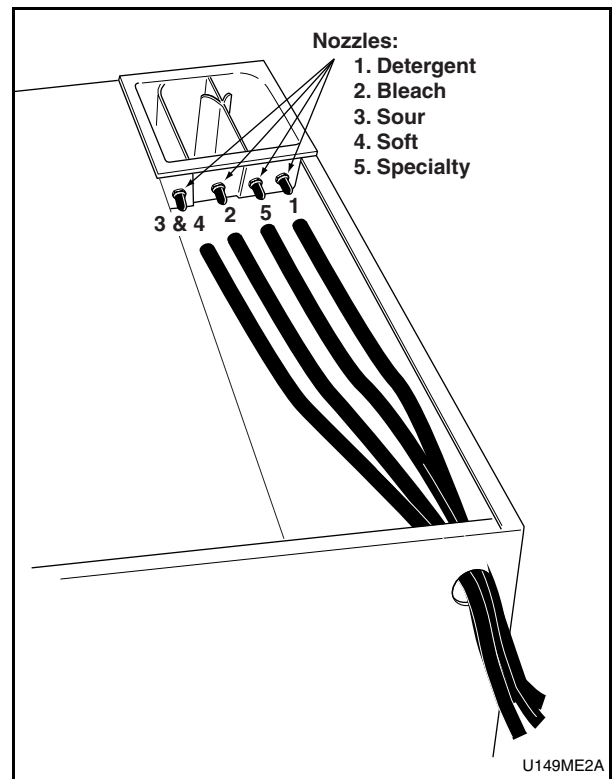

Figure 11
3. Locate the 4 capped nozzles on the rear of the liquid supply dispenser and remove caps. See Figure 11.